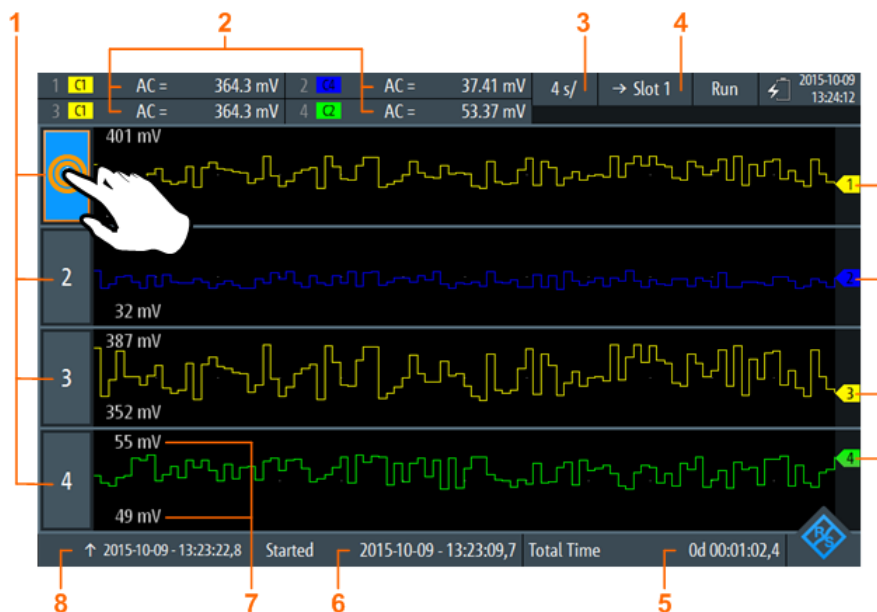

Figure 7-1: Logger display, view of all logged scope measurements
1. To switch to one-log-view, tap on one of the logged measurements as shown in Figure 7-1.